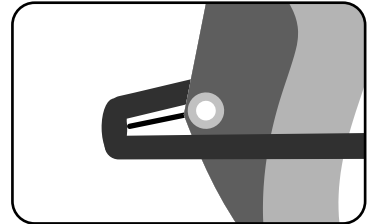

Figure 3: Set the boom length to the outhaul cord
- c) Gently pull on the outhaul cord and set your boom to the end of the cord (figure 3).